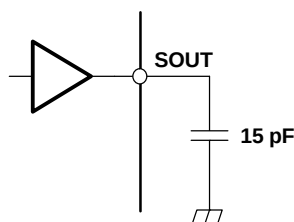

Figure 5. Test Circuit for t_{r0} , t_{f0} , t_{d0} , t_{d1}
(1) See Figure 5. Defined as from 10% to 90%
(3) See Figure 5, Figure 13